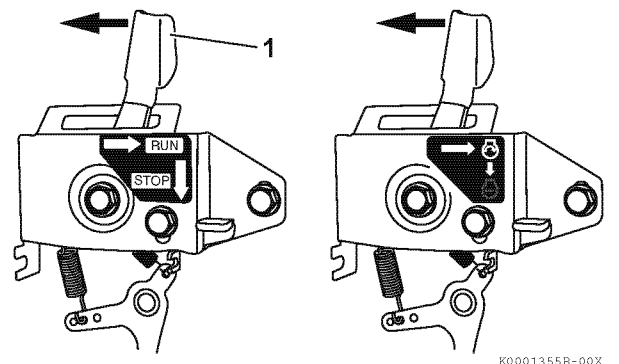

Figure 17
2. If your engine speed control is similar to **Figure 17** slide the engine speed control lever (1, **Figure 17**) in the direction shown to adjust the engine speed.